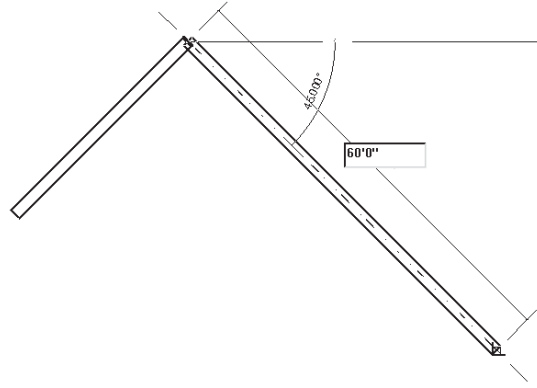

Figure 3-40 Sketching the second inclined wall segment
6. The **Chain** option is enabled and so the second wall segment starts from the last specified point. Move the cursor downward towards the right such that the perpendicular object snap symbol appears, Enter **60'0"** as the value, see Figure 3-40. The wall perpendicular to the first inclined wall is created.